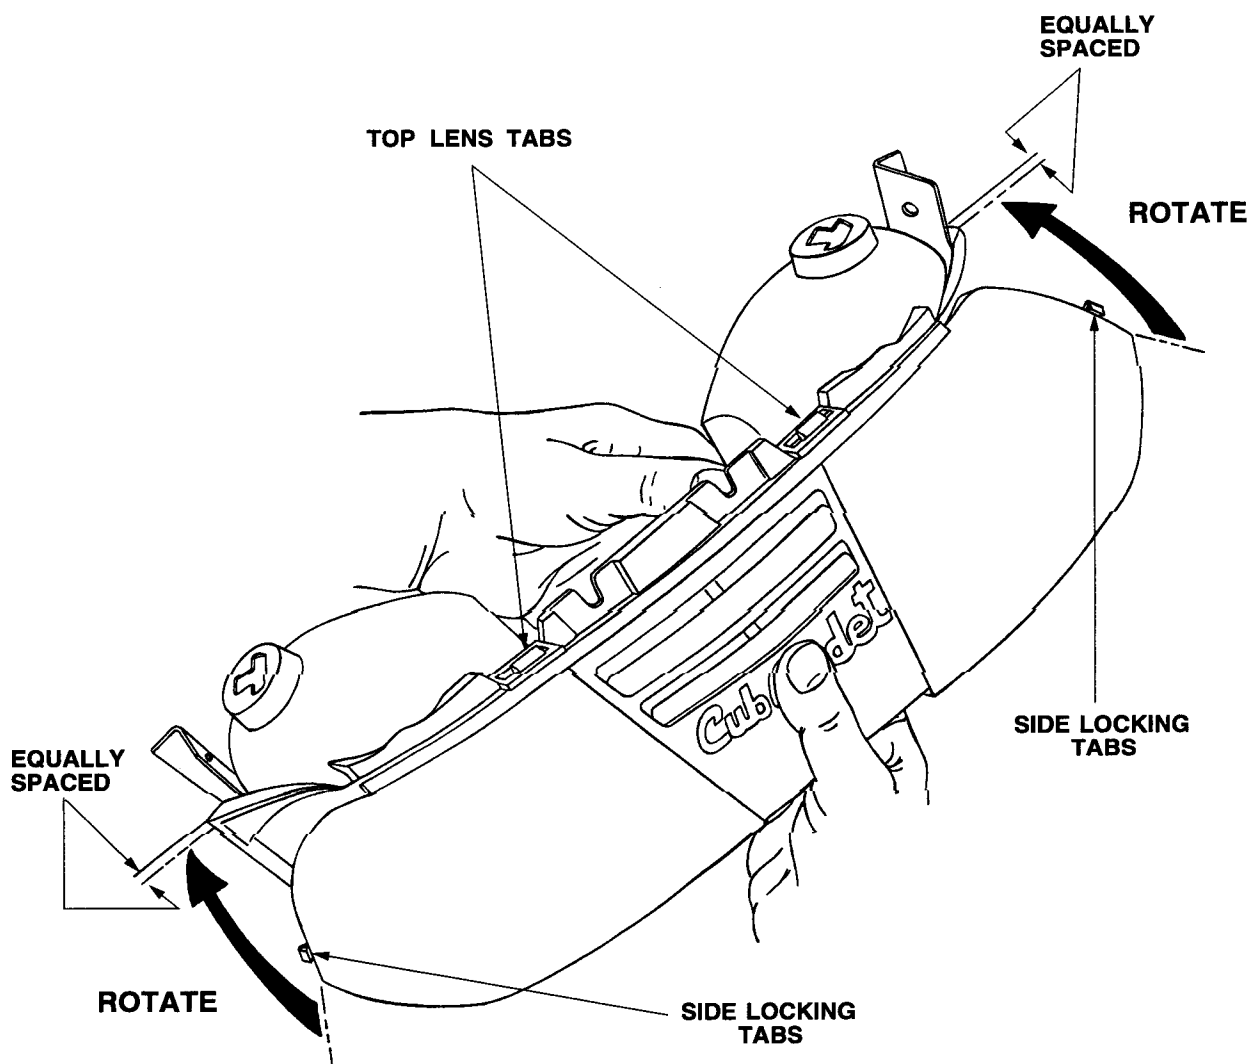

Figure 5-3. Headlight Reflector and Lens Assembly.
1. Separate the hood (28) from the grille (6) by removing the hex flange lock nuts (14) and spring washers (24) which fasten the short and long hood links (7 and 8) to the upper hood bracket (3).
2. Disassemble the hood (28) as follows:
- a. Remove the truss tap screws (12) fastening the upper hood bracket (3) to the hood (28).
- b. Using a small screwdriver, carefully pry the side locking tabs of the headlight lens (19) to release them from the front flange of the hood (See Fig. 5-3).
- c. Remove the truss tap screws (12) and flat washers (25) securing the headlight reflector (20) to the hood.
- d. Remove the upper hood bracket (3) and headlight reflector (20) from the hood as an assembly by carefully spreading the hood sides enough to allow removal. Remove the U-type speed nuts (17) from the hood.
- e. Remove the truss tap screw (12) from each side of the headlight reflector (20) to separate the reflector from the upper hood bracket (3).
- f. Remove the headlight lens (19) from the reflector (20) by depressing either the upper or lower locking tabs of the lens to release them from the reflector slots (See Fig. 5-3).
- b. Position the heat baffle seal (16) and press onto the rear hood baffle. The seal should completely cover the bottom edge of baffle.
- c. Position the hood guide (11) in the hood, with the flat surface of the guide toward the front. Position the hood latch spring (22) on the mounting flange of the guide and secure both with the hex wash. hd. tapp screws (13).
- d. Assemble the headlight lens (19) and reflector (20) as follows:
1. Holding the lens (19) at approximately a right angle to the reflector (20), insert the top lens tabs into the slotted ears of the reflector (see Fig. 5-3).
3. Slide the lens in the direction necessary to center the lens on the reflector. The lens must be properly centered to enable the side locking tabs of the lens to engage the hood flange when assembled (see Fig. 5-3).
- e. Install the headlight reflector/lens on the upper hood bracket (3), with bottom of reflector toward bracket mounting flange. Secure with truss tap screws (12).
- f. Slide the U-type speed nuts (17) onto the flange of the hood.
- g. Spread the hood sides to install the upper hood bracket/reflector assembly INSIDE the hood flanges. Make certain the upper ears of the reflector are also inside the front hood flange, and that the U-type nuts (17) have not been dislodged.
- h. Secure the reflector to the hood using the flat washers (25) and truss tap screws (12).
- i. Secure the upper hood bracket (3) to the hood with the truss tap screws (12).